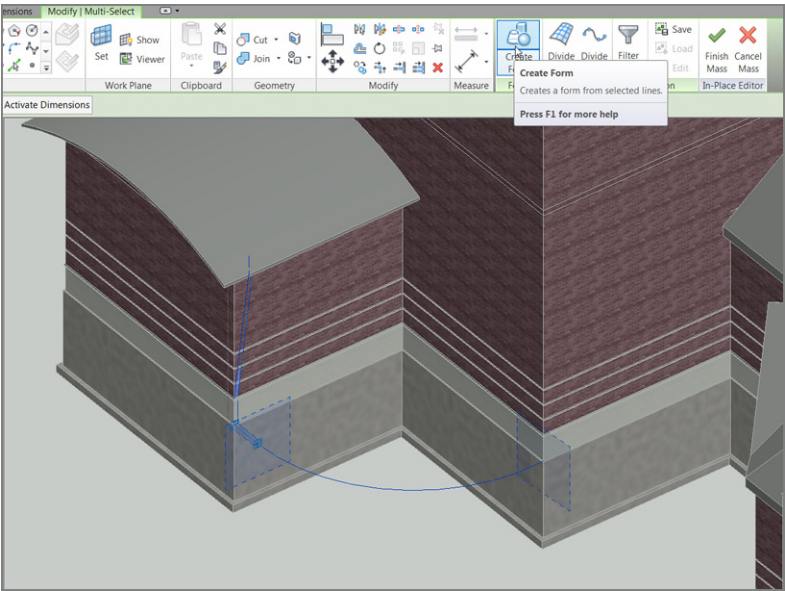

FIGURE 16.46: Selecting the objects, and creating the form
6. Click the Create Form button, as shown in Figure 16.46.